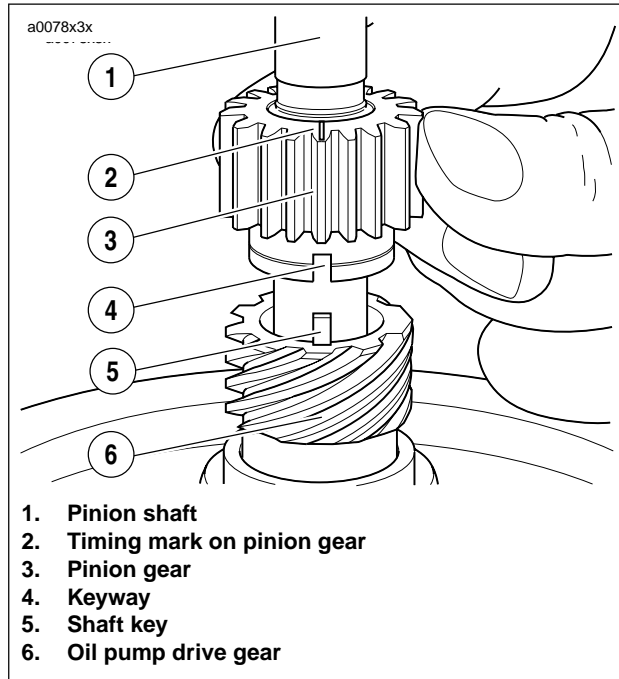

Figure 3-115. Aligning Pinion Gear
1. See Figure 3-115. Install oil pump drive gear (6) and pinion gear (3) on pinion shaft (1).
- a. Install shaft key (5) into pinion shaft slot.
- b. Slide oil pump drive gear (6) over pinion shaft (1). Drive gear must align with shaft key.
- c. Align keyway (4) in ID of pinion gear with shaft key.
- d. Slide pinion gear (3) over shaft key (5) and against oil pump drive gear (6).